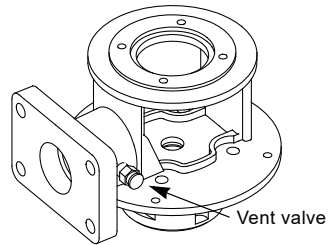

Fig. 9 Position of the vent valve
2. If the pump is fitted with a vent valve, this valve must be opened. See fig. 9.